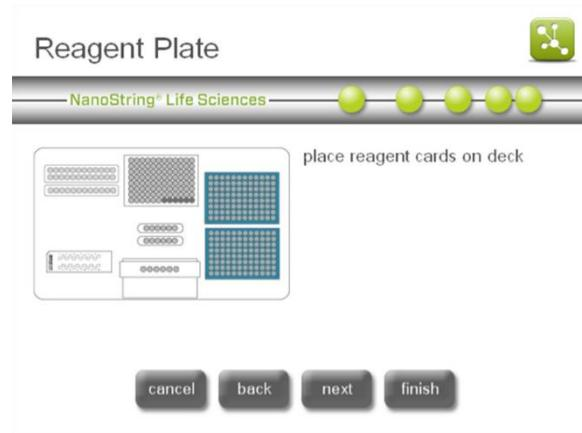

Figure 19: The ‘Reagent Plate’ screen.
- The ‘Reagent Plate’ screen will appear (**Figure 19**). Remove the clear plastic lids and place the Prep Plates on the deck. Make sure plates are oriented with the label facing the operator and that they are flush with the deck surface by aligning the plate on the positioning pin and pressing down firmly near the plate catch (**Figure 20**). If running 6 or fewer lanes, only the front plate needs to be loaded onto the deck. Press **next**.